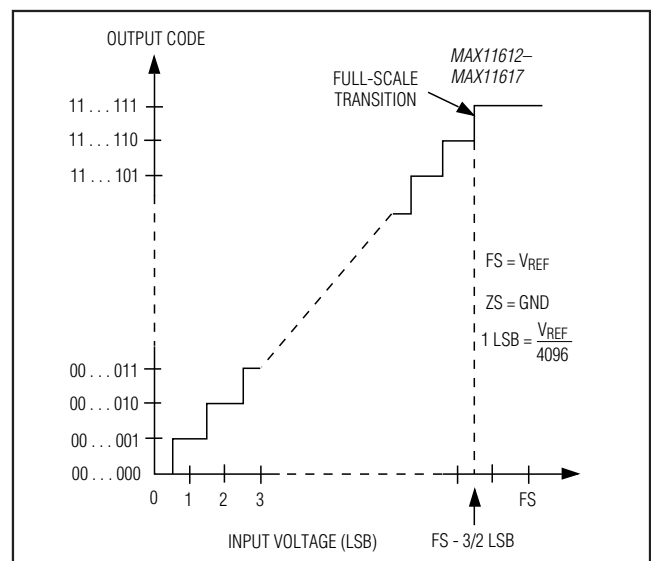

Figure 12. Unipolar Transfer Function
Output data coding for the MAX11612-MAX11617 is binary in unipolar mode and two's complement in bipolar mode with 1 LSB = (V_{REF}/2N) where N is the number of bits (12). Code transitions occur halfway between successive-integer LSB values. Figures 12 and 13 show the input/output (I/O) transfer functions for unipolar and bipolar operations, respectively.